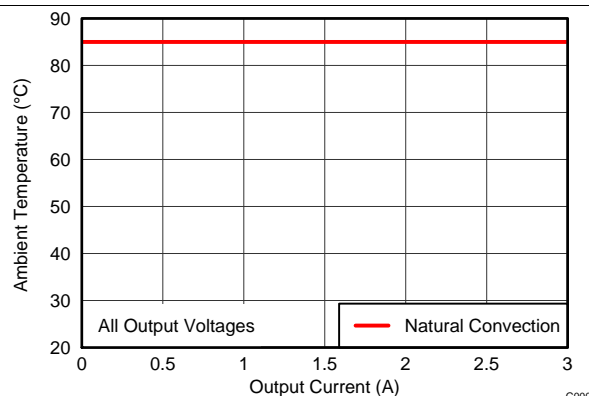

Figure 14. Safe Operating Area
- (2) The temperature derating curves represent the conditions at which internal components are at or below the manufacturer's maximum operating temperatures. Derating limits apply to devices soldered directly to a 100 mm x 100 mm double-sided PCB with 1 oz. copper. Applies to Figure 14.